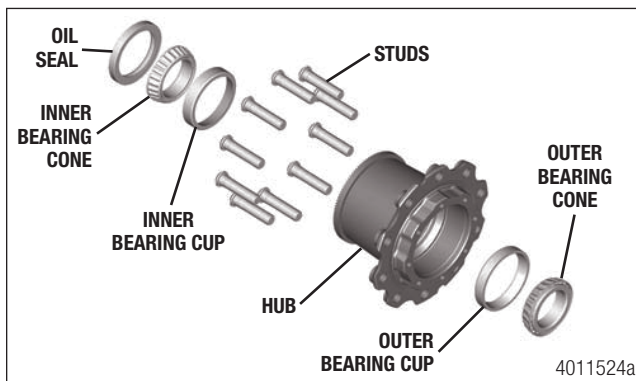
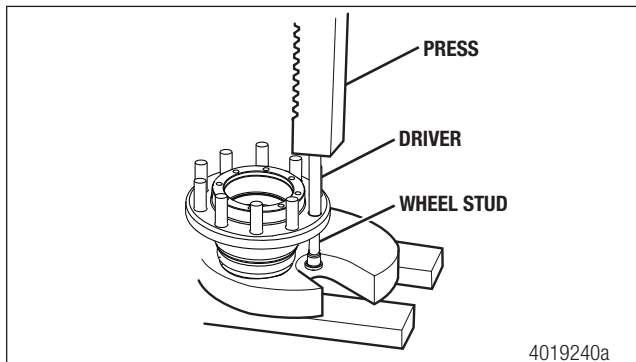

Figure 5.13
Figure 5.14
1. If it is necessary to remove the wheel studs from the hub, place the hub into a press. Support the hub flange and press the studs through the hub. Figure 5.13 and Figure 5.14.
4. Remove the inner bearing cone from the hub. Figure 5.13.
5. Remove the inner and outer bearing cups from the hub with a press and sleeve or a bearing puller. Figure 5.13.